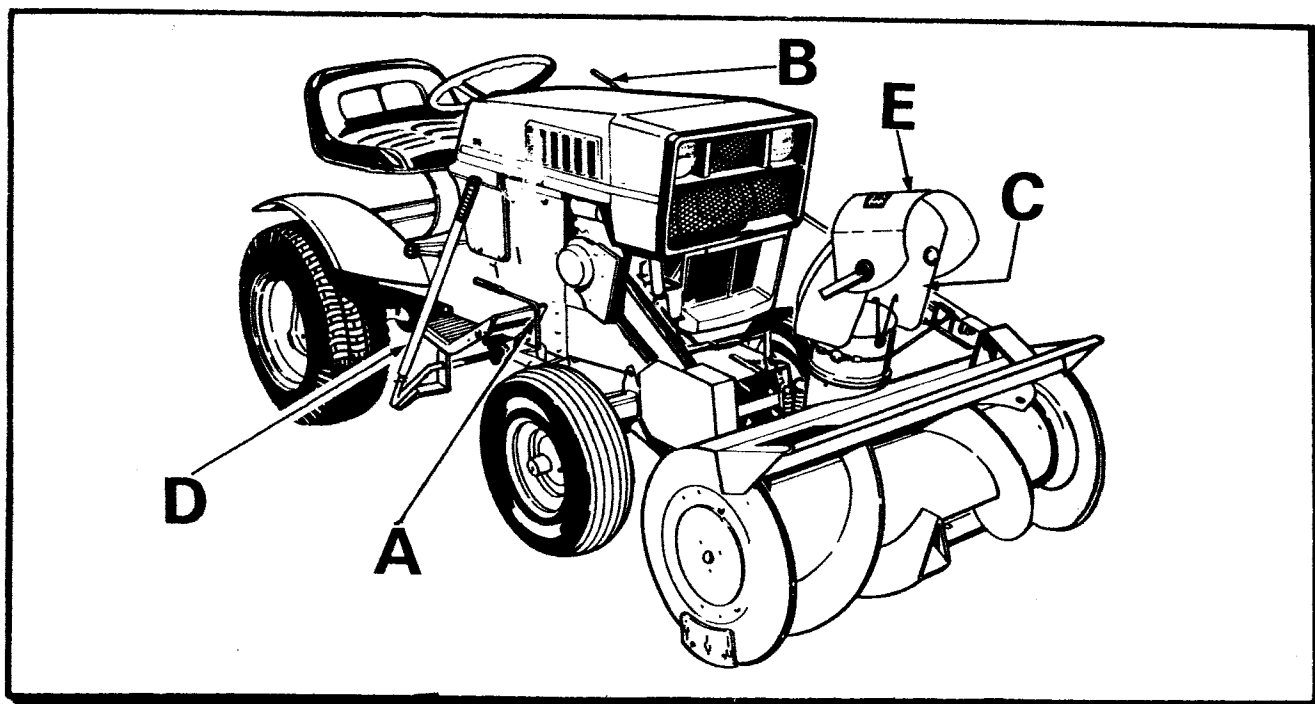

Fig. 19
3. Test the following controls for smooth operation (Fig. 19):
The discharge chute crank is located on the left-hand side of tractor (Fig. 19). Turn crank to the right to direct snow to the right-hand side and turn it to the left for the opposite effect.
Your snow thrower is driven by a V-belt from the tractor engine and is operated through the tractor attachment clutch lever (see Fig. 19).
Lift lever to raise and lower snow thrower is located on right hand side of tractor (Fig. 19)